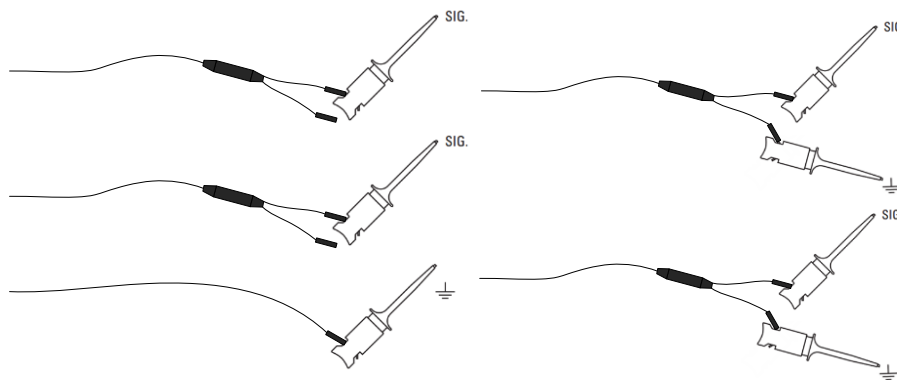

Figure 2-4
- 4) Connect probe clips to the signals being measured. For low frequency signal ($<5\text{MHz}$), a common ground is enough (Figure 2-4 left). For high frequency signal, an independent ground connection for each channel is recommended (Figure 2-4 right).